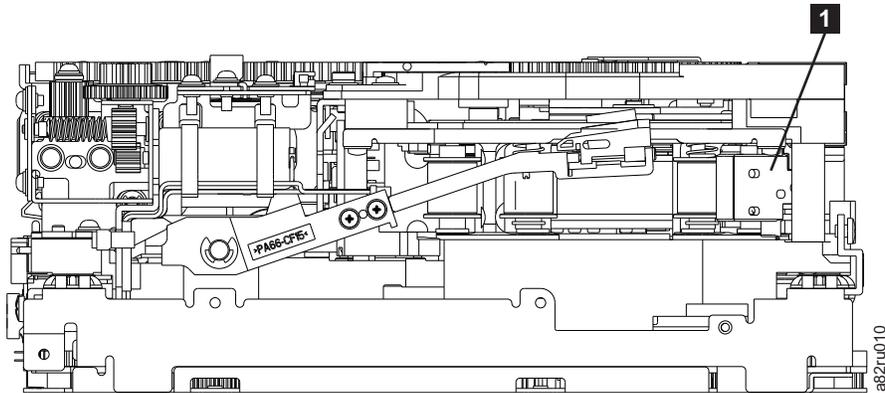

Figure A-21. Leader Block Assembly (LBA)
9. Rotate the threader motor worm gear (**4** in Figure A-20 on page A-21) to turn the threader mechanism gear (**6** in Figure A-20 on page A-21) counterclockwise. This moves the LBA out of the cartridge and past the read/write head. Stop this rotation when the LBA is near the tape guide roller nearest the rear of the drive shown as **1** Figure A-21.